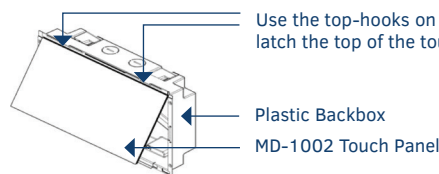

FIG. 4 ENGAGING THE TOP EDGE OF THE PANEL WITH THE TOP HOOKS ON THE BACKBOX
1. Center the top edge of the touch panel against the upper outside edge of the Backbox and latch the top of the panel onto the Backbox top-hooks (FIG. 4):